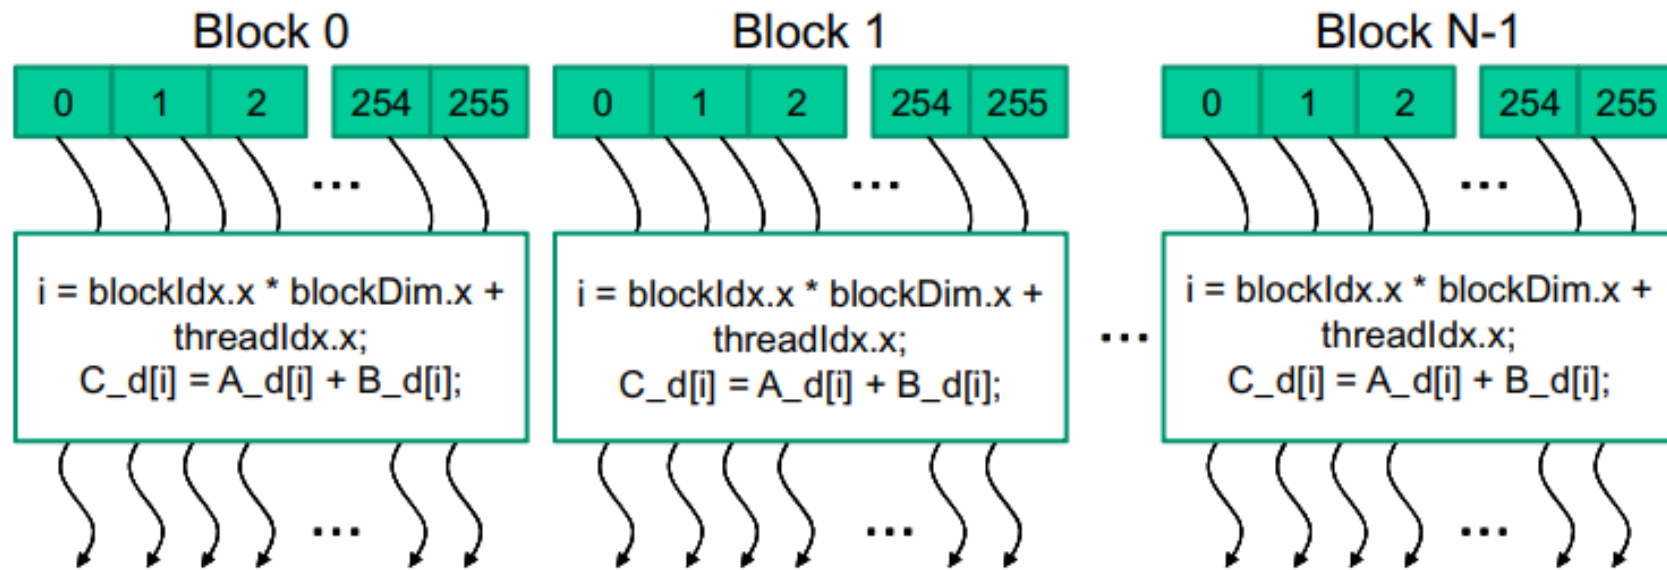

FIGURE 3.10
- Figure 3.10 shows an example where each block consists of 256 threads. The number of threads in each thread block is specified by the host code when a kernel is launched. The value of the blockDim.x variable is 256. In general, the dimensions of thread blocks should be multiples of 32 due to hardware efficiency reasons. We will revisit this later.